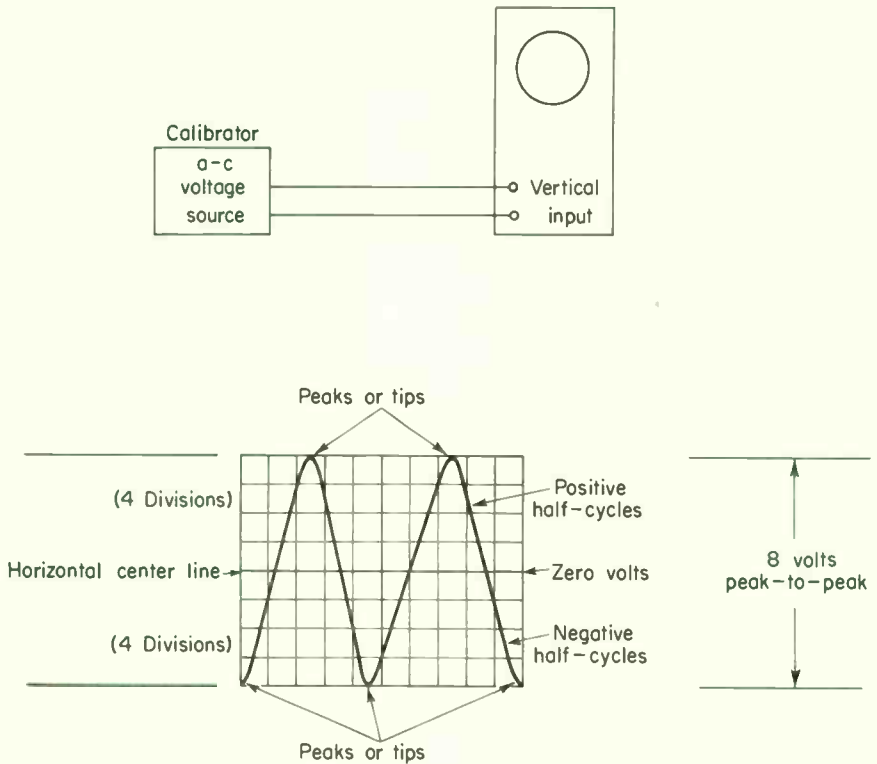

Fig. 6-6. Voltage calibration with external ac.
1. Connect the equipment as shown in Fig. 6-6.
5. Without touching the vertical position control, adjust the vertical gain control to align tips of positive half-cycles and tips of negative half-cycles with the desired scale divisions. For example, assuming a calibrating voltage of 8 volts peak-to-peak, and a scale as shown in Fig. 6-6, set the vertical gain control so that the trace is spread from the top line (four divisions up from the center line) to the bottom line (four divisions below the center line). Thus, each division will equal 1 volt, peak-to-peak. In the example shown in Fig. 6-6, this would give the oscilloscope a vertical deflection factor of 1 volt/cm, with the step-attenuator set to X1. If the step-attenuator were then moved to X10, the factor would be 10 volts/cm.